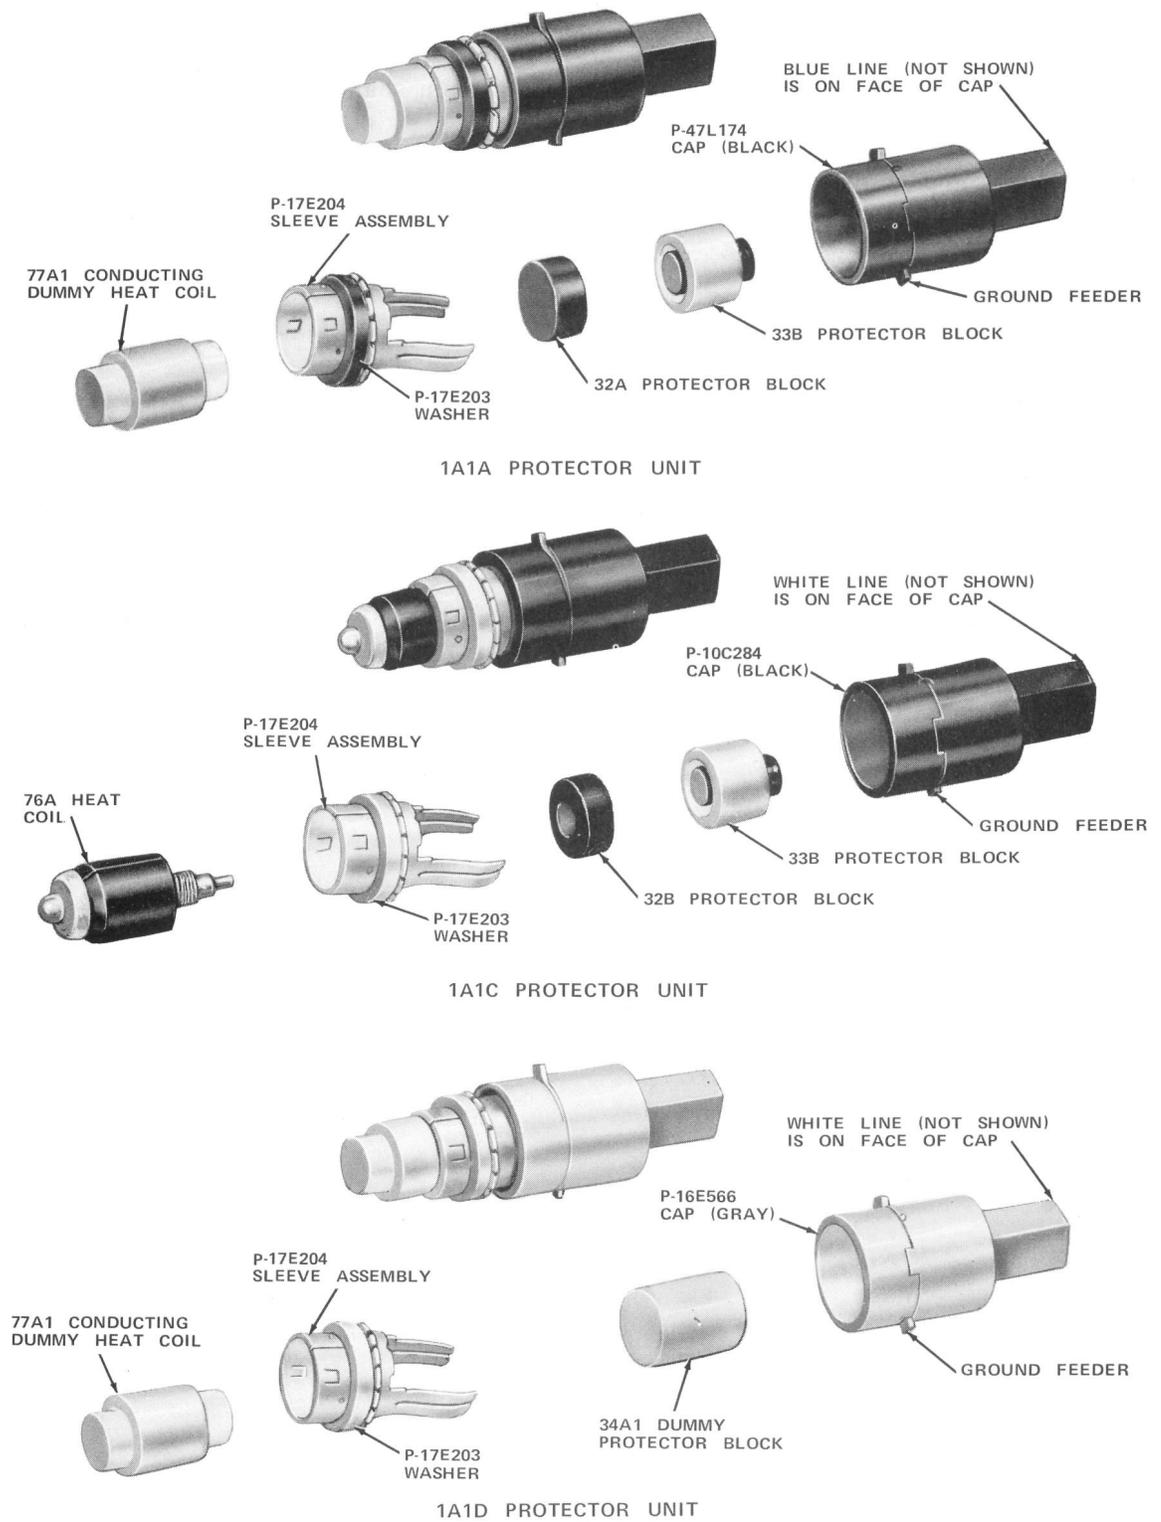

Fig. 6—1A1A, 1A1C, 1A1D Protector Unit Assemblies
WHEN REPLACING A LARGE SPRING MAKE CERTAIN THAT A P-17E203 WASHER IS ASSEMBLED ON THE ASSOCIATED PROTECTOR UNIT. (SEE FIG. 6)
4.05 Disassemble the protector unit by holding the cap in one hand and the sleeve (Fig. 6) with the other hand. Withdraw the sleeve (containing the heat coil and protector blocks) from the cap.
5.01 Place the protector blocks in the sleeve of the protector unit (Fig. 6) before the heat coil is installed.